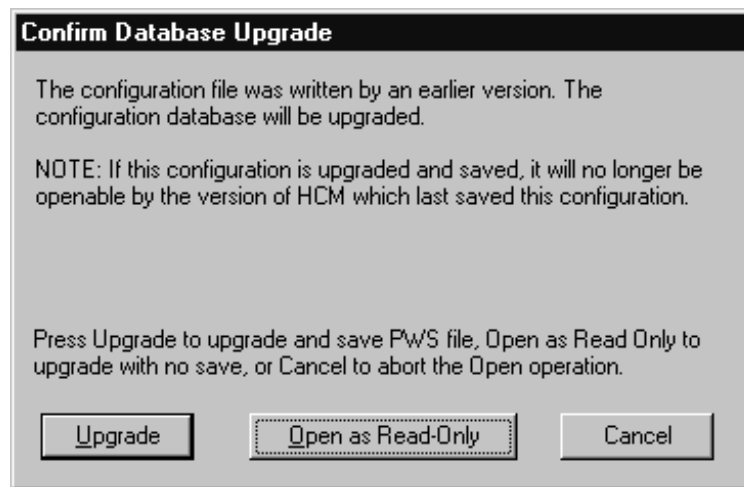

Figure 31. Confirm Database Upgrade
1. Open the pre-V1R7 configuration file (**File --> Open**). HCM prompts you to either upgrade or open the file as read-only (Figure 31 on page 75). It is recommended to use the **read-only** option, because this choice will keep a backup of the original configuration file. Or you can load a pre-V1R7 IODF into a new or existing, pre-V1R7 configuration file (**File --> IODF**). Depending on the size of the IODF, this process can take quite some time because HCD converts the loaded IODF data into the new version 5 format.